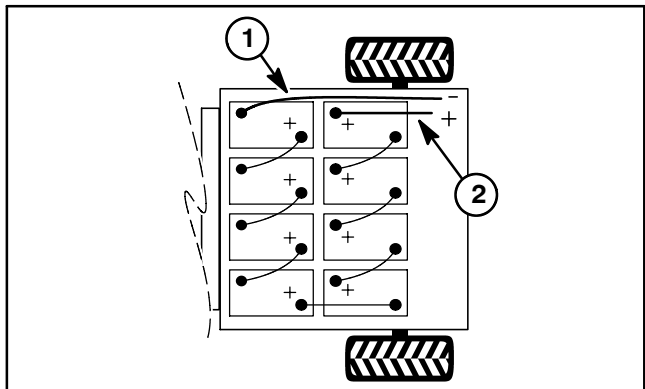

Figure 31
1. Make sure on/off switch is turned OFF. Open the battery circuit by removing one of the battery cables (see Opening Battery Circuit in the General Information section of this chapter and Fig. 31).